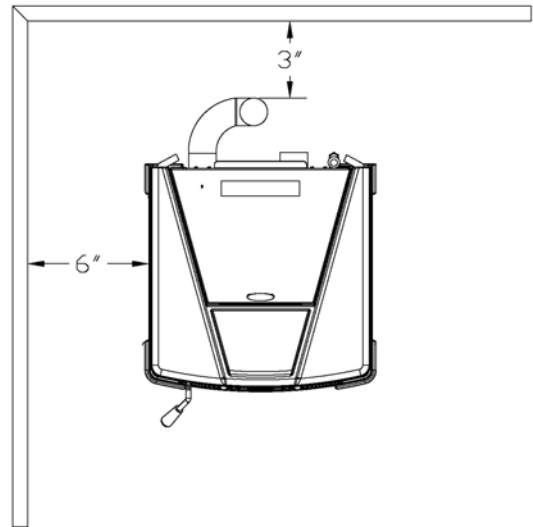

Figure 1
The EUROZONE has been tested and listed for installation in regular and mobile homes.(refer figure 1 & 2)
1. Position stove, adhering to clearances shown in Figures 1 & 2.